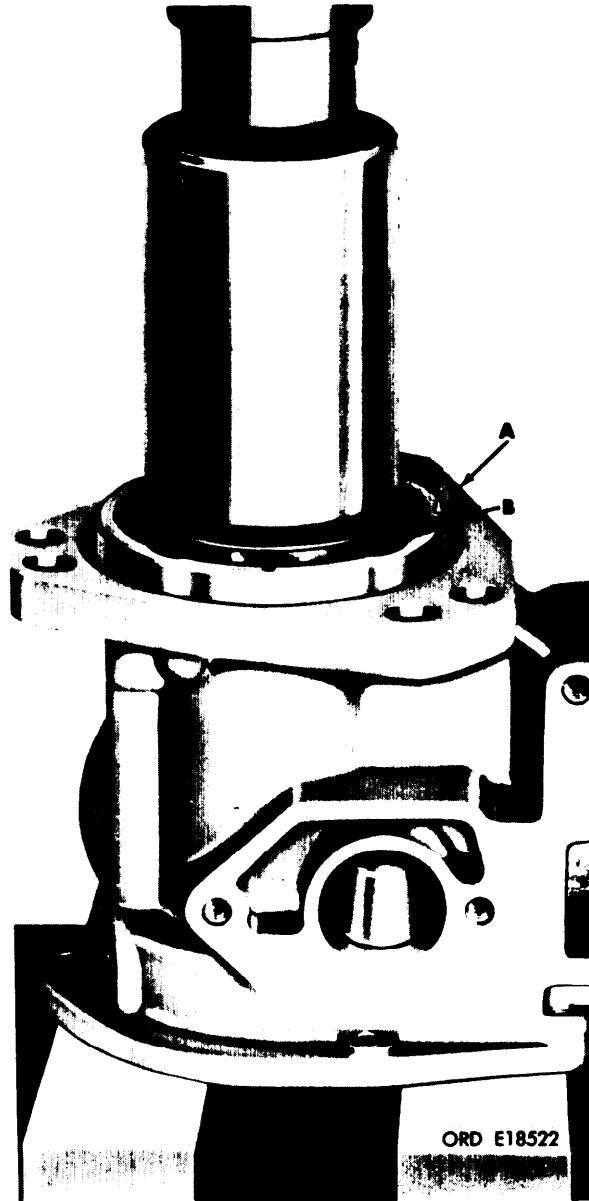

Figure 3-111. Installing camshaft and associated parts in pump housing.
- (1) Refer to figure 3-111. Place pump housing (A) on bed of arbor press and install camshaft and associated parts (B) in injection pump housing.